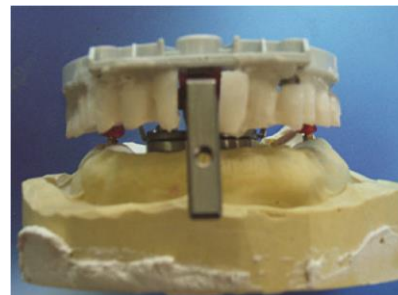

Figure 138: Horseshoe Attached to Connectors and to Simulation Teeth with Self Curing Acrylic
Place three cotton rolls, or folded gauze, over the part of the horseshoe that is supported by each bone screw . See **Figure 138: Patient Bites on Cotton Rolls & CT is Lined Up with Horseshoe** on page 176 (In certain cases, it may be more convenient to place two cotton rolls on the anterior bone screw , instead of one).
- e. The CT scan is performed parallel to the horseshoe plane (rather than to the lower border of the mandible, in a mandible case), to get all the silicon nitride markers' images in the CT scan, by any metal restorations present in the patient's mouth. See **Figure 138: Patient Bites on Cotton Rolls & CT is Lined Up with Horseshoe** on page 176.